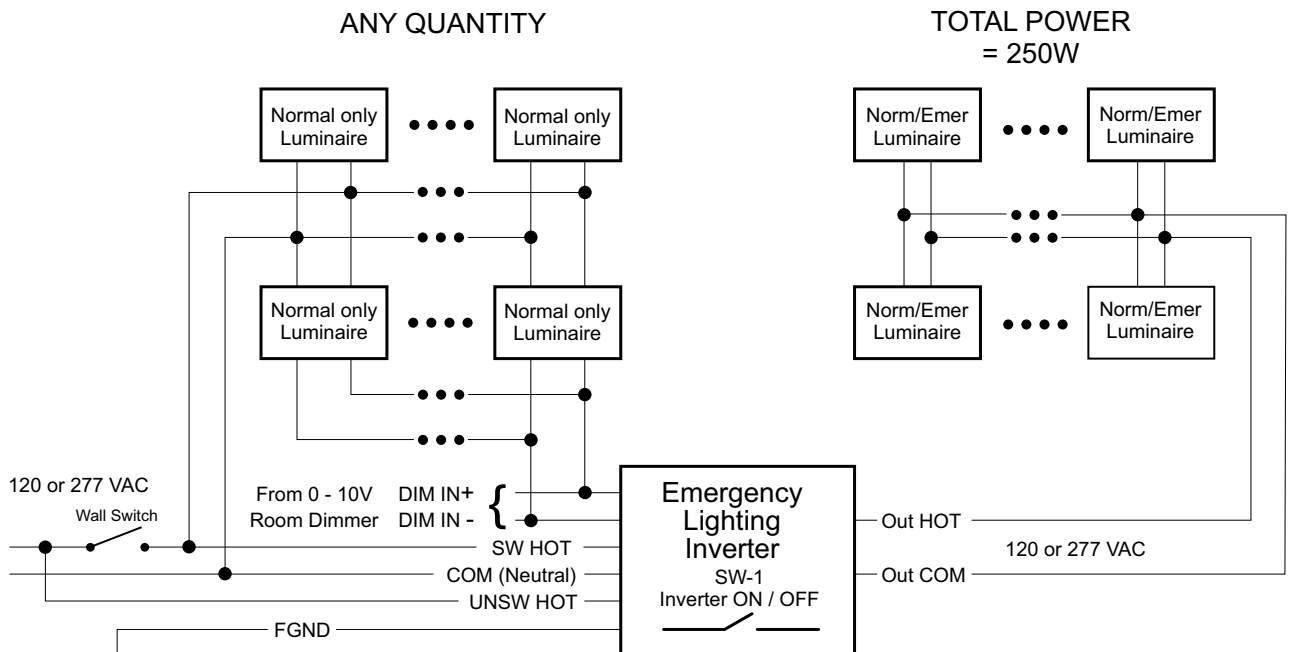

FIGURE W2
**Figure W2**, below shows an example of an alternate emergency lighting system in which the emergency luminaires ARE NOT dimmable. In this case, the total connected emergency lighting load MUST BE LESS THAN or EQUAL to 250W.